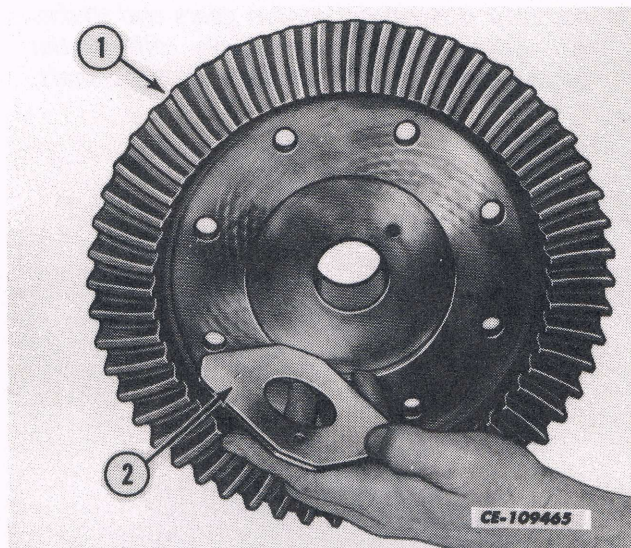

Fig. 9.
4. Remove the thrust washer (2) from the ring gear. See Fig. 9.